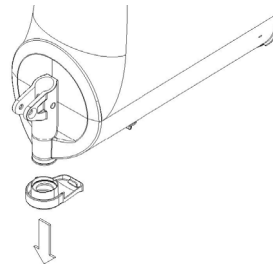

figure 13
- Remove the flow restrictor from the bowl (see figure 13).
- 7** Remove the flow restrictor from the container (see figure 13).
- 5** Remove the flow restrictor from the container (see figure 13).